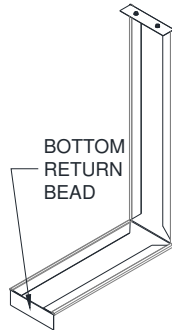

Figure 11.2 - Hood Splice
- Square hood sections do **not** overlap at the hood support. They butt against each other and a hood splice cover is provided to cover the joint, see **Figure 11.2**.